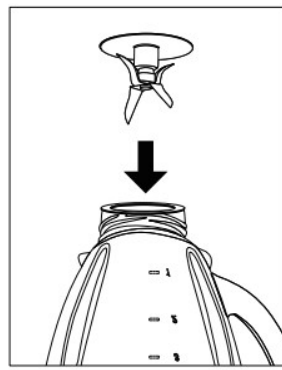

Figure 3
3. Place blade into the small opening of the jar. (Figure 3)